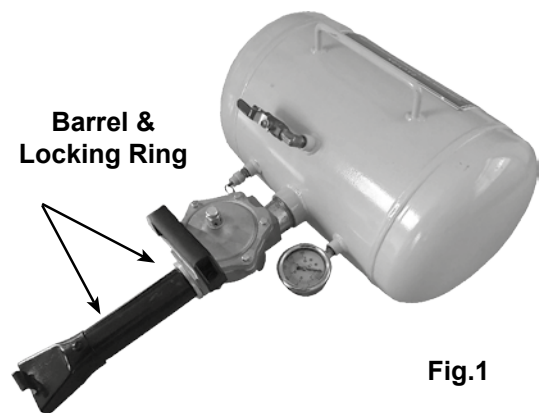

Fig.1
1. Screw the locking ring onto the barrel and screw into the release valve (fig. 2.C) as shown in fig.1.